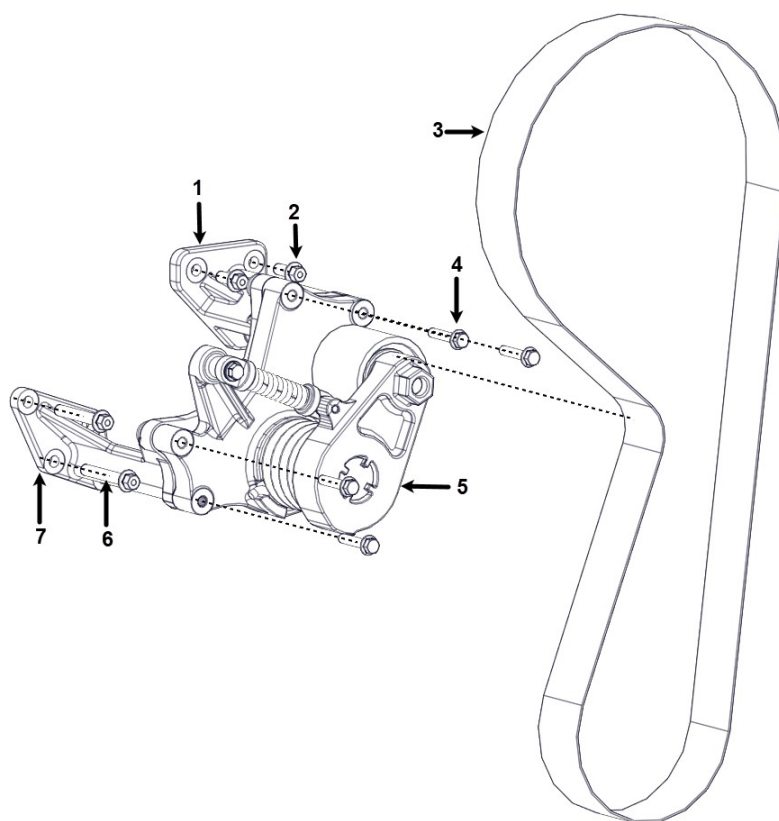

Figure 20. Automatic Fan Belt Tensioner Assembly
1. Remove the serpentine belt (Figure 20, Item 3).
2. Remove the four bolts (Figure 20, Item 4).
3. Remove the automatic fan belt tensioner (Figure 20, Item 5).
4. Remove the seven bolts (Figure 20, Items 2 & 7) from the automatic fan belt tensioner bracket (Figure 20, Items 1 & 7).
1. Place the automatic fan belt tensioner bracket (Figure 20, Items 1 & 7) onto the cylinder block.
2. Insert and torque down the seven bolts (Figure 20, Items 2 & 7).
3. Place the automatic fan belt tensioner (Figure 20, Item 5) onto the bracket and insert and torque down the four bolts (Figure 20, Item 4).
4. Place the serpentine belt (Figure 20, Item 3) back onto the automatic fan belt tensioner.